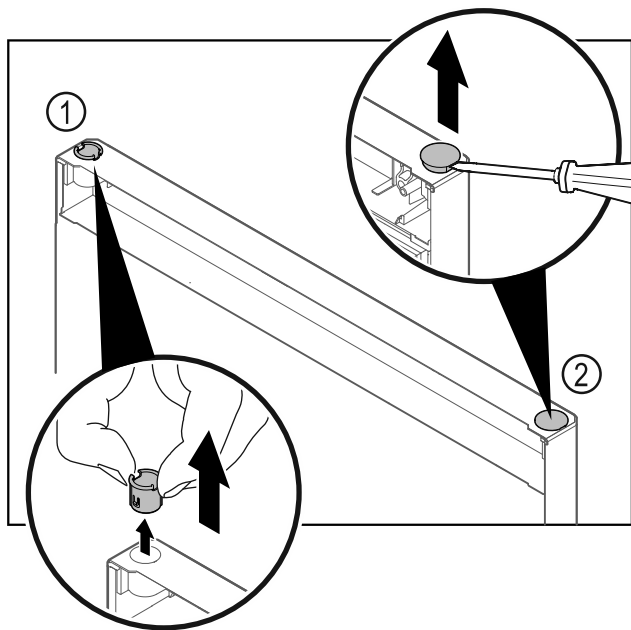

Fig. 24
- ▶ Pull out the hinge bushing Fig. 24 (1) with your fingers.
- ▶ Carefully lift the cover plug Fig. 24 (2) with a slotted screwdriver and pull it out.